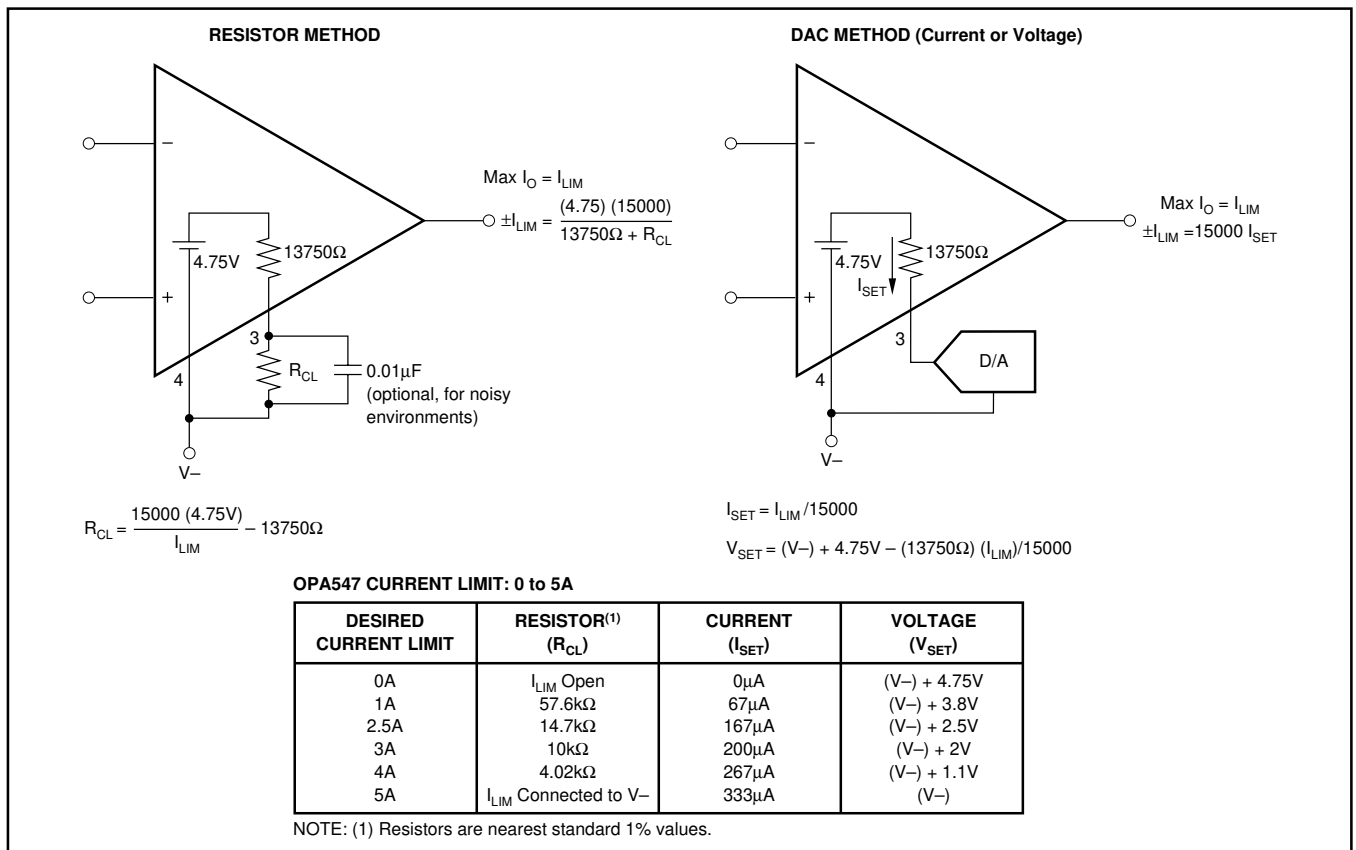

FIGURE 3. Adjustable Current Limit.
See Figure 3 for a simplified schematic of the internal circuitry used to set the current limit. Leaving the I_{LIM} pin open programs the output current to zero, while connecting I_{LIM} directly to $V-$ programs the maximum output current limit, typically 5A.
NOTES: (1) Works well for $G < 10$. Input offset causes output current to flow between amplifiers with $G > 10$. Gains (resistor ratios) of the two amplifiers should be carefully matched to ensure equal current sharing. (2) As configured (I_{LIM} connected to $V-$) output current limit is set to 10A (peak). Each amplifier is limited to 5A (peak). Other current limit values may be obtained, see Figure 3, "Adjustable Current Limit".